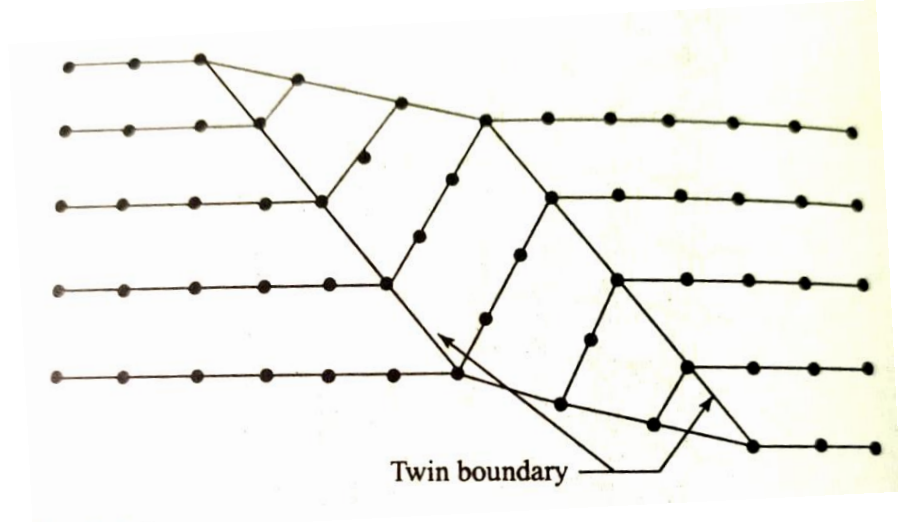

Fig.8
- ❖ The intermediate region is called twinned region (Fig.8)